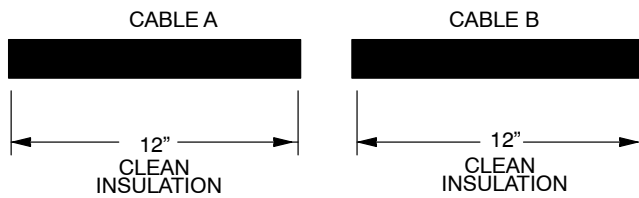

FIGURE 1
1. Thoroughly clean the cable insulation. Clean 12" of insulation on Cable "A" and 12" of insulation on Cable "B". See Figure 1.